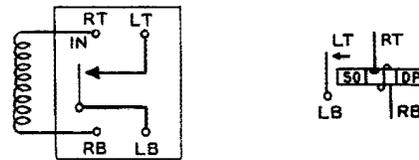

Fig. 90 – Winding and Spring Terminal Arrangement as Viewed From the Rear (terminal side) — KS-7800 Through KS-7850 and KS-8280 Adams-Westlake Relays
2.93 The contact and wiring terminals for these relays are designated as shown in Fig. 90 as viewed from the rear or terminal side of the relays.